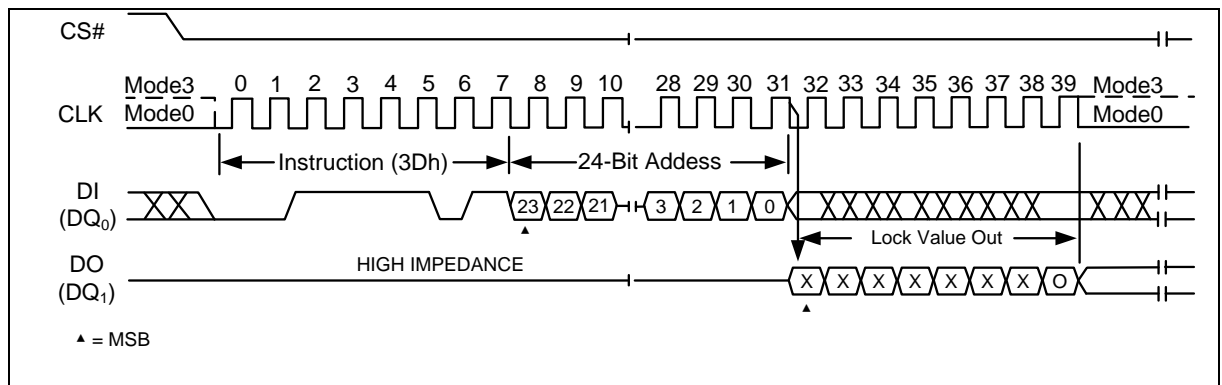

Figure 111 Read Block/Sector Lock Instruction (SPI Mode)
To read out the lock bit of a specific block or sector as illustrated in Figure 111, a Read Block/Sector Lock command must be issued by driving CS# low, shifting the instruction code "3Dh" into the Data Input (DI) pin on the rising edge of CLK, followed by a 32/24-bit address and then driving CS# high. The Block/Sector Lock bit value will be shifted out on the DO pin at the falling edge of CLK with most significant bit (MSB) as shown in. If the least significant bit (LSB) is 1, the corresponding block/sector is locked; if LSB=0, the corresponding block/sector is unlocked, Erase/Program operation can be performed.